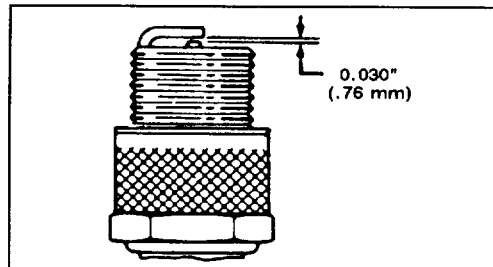

Figure 20
3. Set air gap at 0.030" (0.76 mm) (Fig. 20). Install correctly gapped spark plug and gasket seal. Tighten plug firmly to 15 ft-lb (20 N-m).